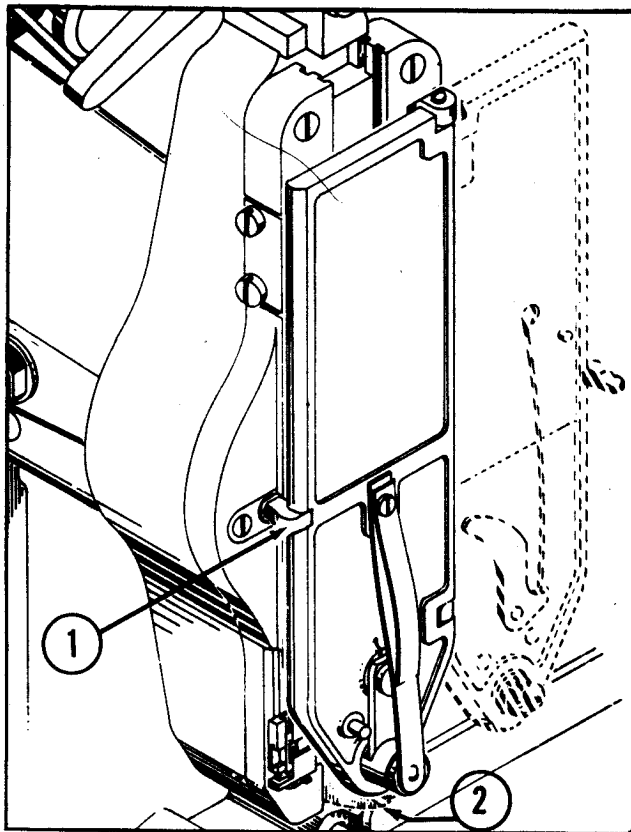

Figure 2—Opening and Closing Stitcher Head Door
1. HOW TO OPEN AND CLOSE STITCHER HEAD DOOR (See Fig. 2.)
a. To open stitcher head door, press door latch (1) to the right, thereby releasing latch from latch catch and permitting door to swing to open position (shown in dotted line in Fig. 2).
b. To close door, check that machine is at top of stroke (supporter (2) will be at its forward position); depress supporter back to its retracted position with the left hand and, with supporter held in this position, close door, pressing in latch (1) as latch enters latch catch.